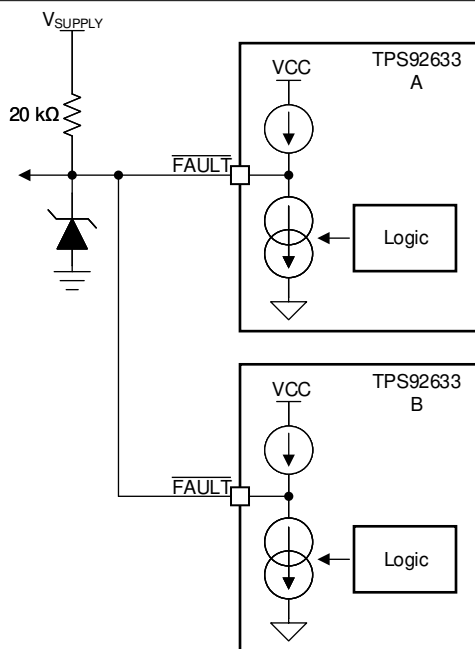
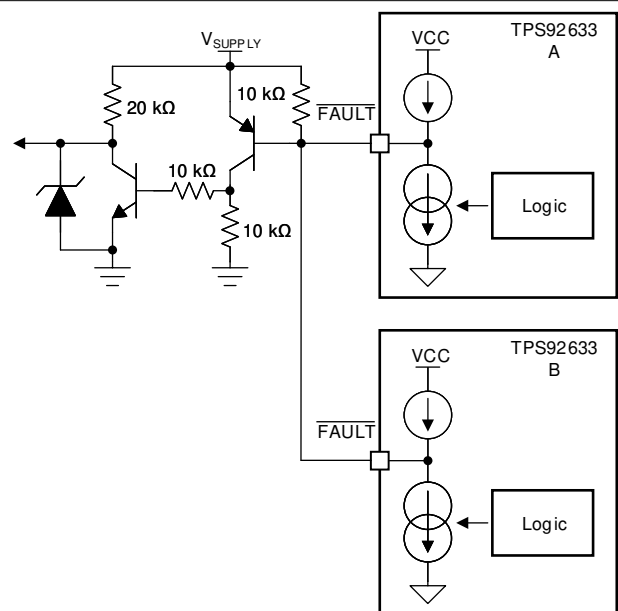

Figure 7-12. FAULT Bus for One-Fails-All-Fail Application
Figure 7-13. FAULT Bus for One-Fails-Others-On Application
Based on this feature, the TPS92633 device is able to construct a FAULT bus by tying $\overline{\text{FAULT}}$ pins from multiple TPS92633 devices to achieve one-fails-all-fail function as Figure 7-12 showing. The lower side TPS92633 (B) detects any kind of LED fault and pulls low the $\overline{\text{FAULT}}$ pin. The low voltage on $\overline{\text{FAULT}}$ pin is detected by upper side TPS92633-Q1 (A) because the $\overline{\text{FAULT}}$ pins are connected of two devices. The upper side TPS92633 (A) turns off all output current for each channel as a result. If the $\overline{\text{FAULT}}$ pins of each TPS92633 are all connected to drive the base of an external PNP transistor as illustrated in Figure 7-13, the one-fails-all-fail function is disabled and only the faulty channel is turned off.